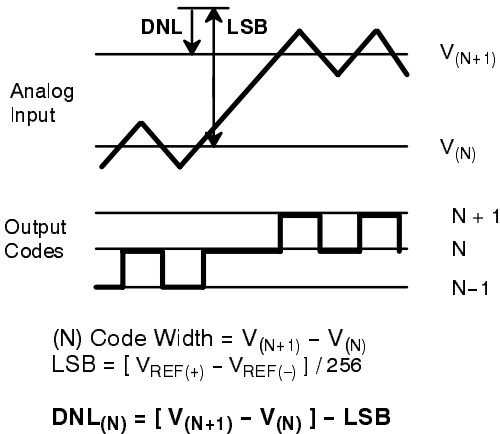
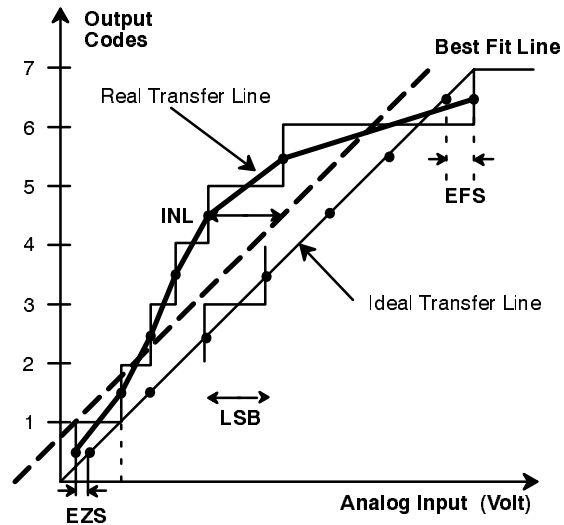

Figure 3. DNL Measurement
Figure 4. INL Error Calculation
- 1 Tester measures code transitions by dithering the voltage of the analog input (V_{IN}). The difference between the measured and the ideal code width ($V_{REF}/256$) is the DNL error (Figure 3.). The INL error is the maximum distance (in LSB's) from the best fit line to any transition voltage (Figure 4.). Accuracy is a function of the sampling rate (F_S).